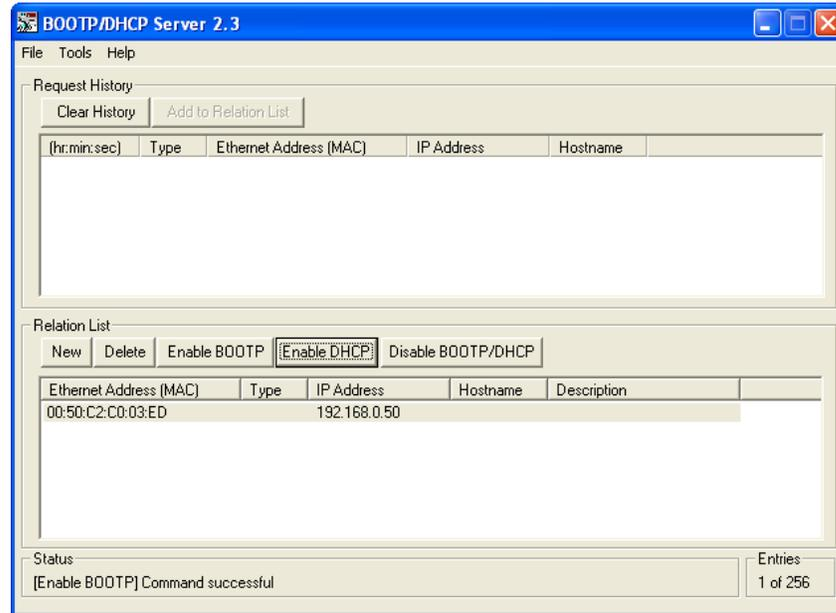

Figure A.2 DHCP Enabled
- 3) Click on your new entry in the “Relation List”. This will activate the buttons in the pane. Click on the [Enable DHCP] button. The message “[Enable DHCP] Command successful” should appear instantly in the status line at the bottom of the window. Figure A.2 shows the state of the RA Bootp-DHCP Server software at this point.